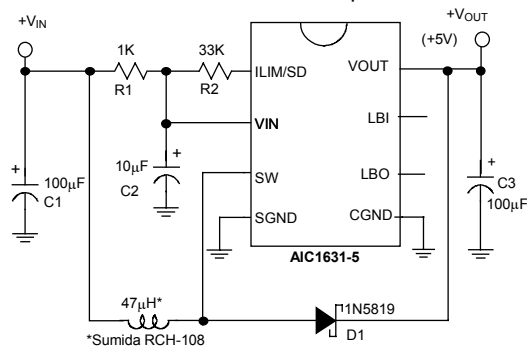
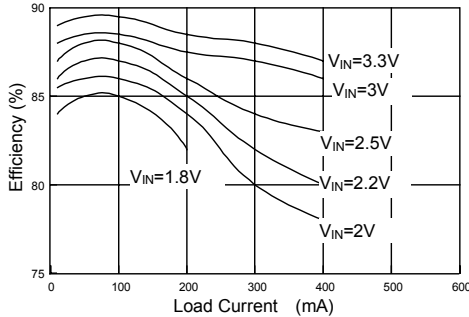
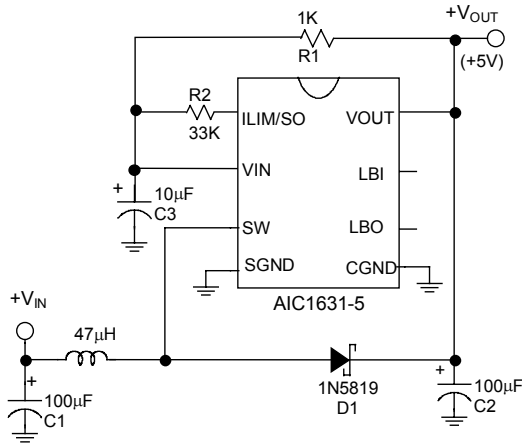

Fig. 1 A High-Efficiency 2-Cell to 5V Converter
Fig. 2 Conversion Efficiency for the 5V Converter
Fig. 5 1 Cell to 5V Step-Up Converter
Conversion efficiency is the main consideration for those devices which consume above 2mA most of the time. Fig. 1 shows a high efficiency converter circuit suitable for producing 5V output from two battery cells. The components shown in Fig. 1 are easily obtained low cost common parts. If high-quality parts (such as MMP core inductors) are used, efficiencies of 90% and above can be reached. However, if good output power quality is desired, such as in Fig. 2 or better, at least two points need to be observed:
- (2) If the output voltage requires the AIC1631, one could add a few external components to make an oscillator to generate control signals for the AIC1631 to perform intermittent operations. This is called “Burst Mode Operation”, and is shown in Fig. 4(a). If CTL shown in Fig. 4(a) is connected to VIN or VOUT, the circuit will function normally with the characteristics similar to the circuit in Fig. 1. If CTL is connected to GND, the circuit will enter Burst Mode with an output voltage of 4V, and the circuit itself consumes very low power, as shown in Fig. 4(b). To change the output voltage in the burst mode, simply change the divider ratio of R₃ and R₄ in Fig. 4(a). Note that the voltage of normal operation will never be exceeded.
- (3) To get the most out of the batteries’ energy, the DC/DC converter must be able to work at low battery voltage. The circuit shown in Fig. 5 still deliver 30mA at 5V with input voltage at 1.6V. The conversion efficiency, however, is somewhat lower than circuit in Fig. 1.
With a correct PCB layout, the output voltage noise of the circuit, shown in Fig. 1 should be below 20mV (Peak to Peak). Under most circumstances, the noise cannot even be seen. However, sometimes one can see ringing of about 10MHz on the oscilloscope. This is referred to as ground noise. Ground noise is conducted by the